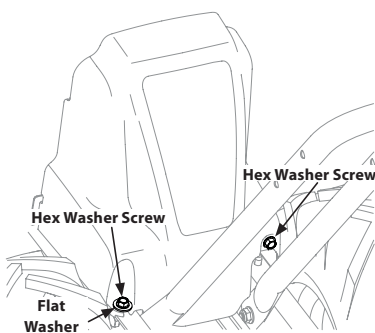

Figure 22
3. Remove the hex washer screw ($\frac{1}{4}$ -20 x .500) and flat washer (.28 x .74 x .500) from the left side of the belt cover (if so equipped) and the hex washer screw ($\frac{1}{4}$ -20 x .500) from the right side of the belt cover. Remove the belt cover. See Figure 22.